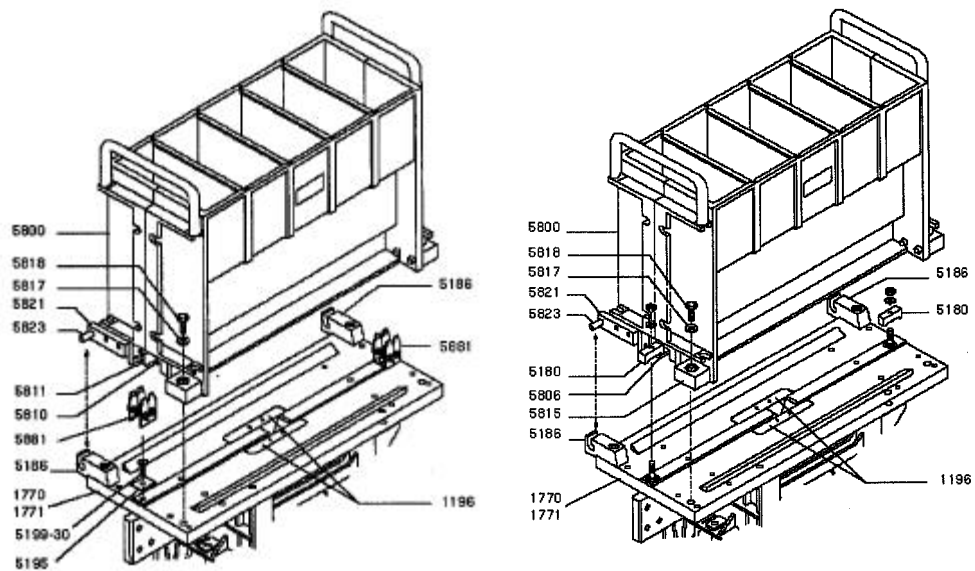

Figure 3 Arc chute on circuit breaker
1. Fully unscrew the fixing screws (5818) and lugs (5825) of the arc chute on the circuit-breaker (Executions S and TD). (See Figure 3)